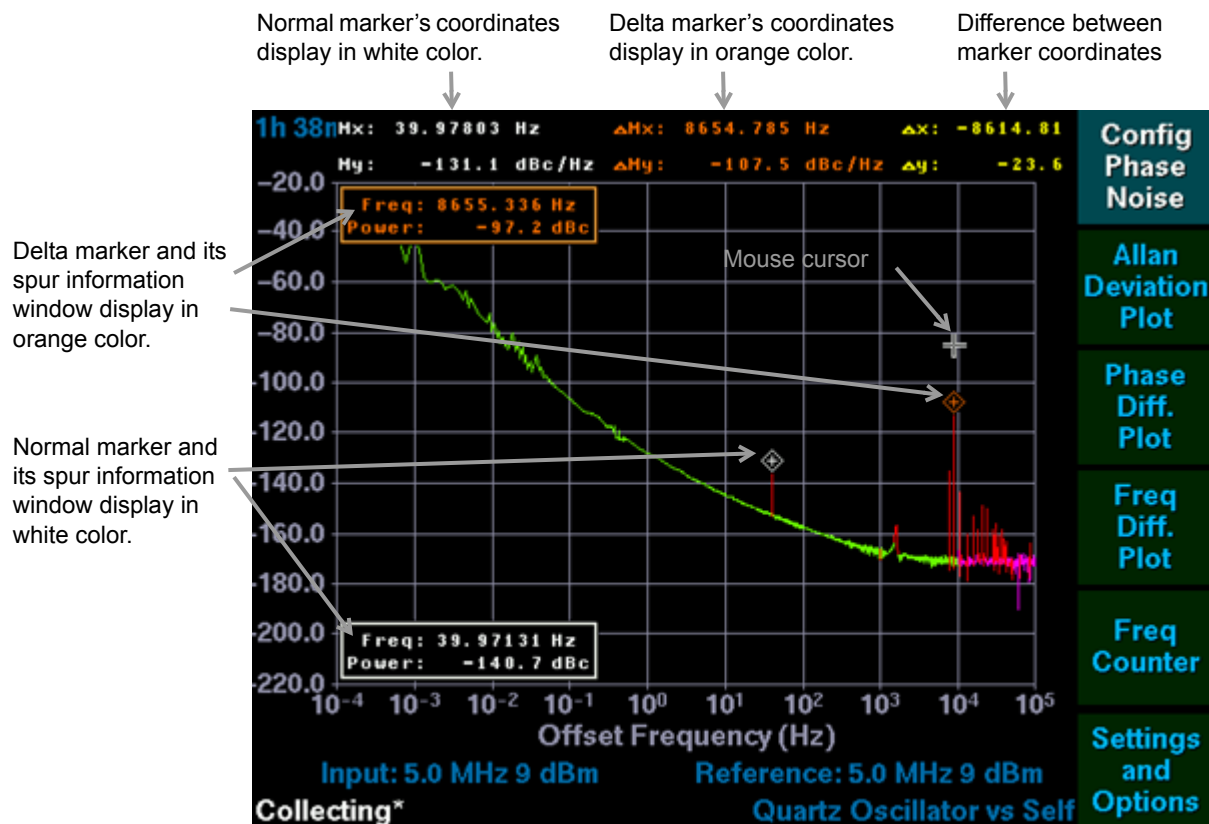

Figure 10: Example Phase Noise Data with Data Markers
- The mouse cursor changes to a cross hair as shown above the delta marker in Figure 10 Example Phase Noise Data with Data Markers.
- Tip: Due to limitations imposed by screen resolution, multiple data points are plotted at the same x-coordinate. Mouse-based marker placement also considers the y-coordinate when selecting the best matched measurement. The mouse was used to place the delta marker in Figure 10 Example Phase Noise Data with Data Markers. Note that the cross hair mouse cursor is above the actual measurement traced by the marker. This ensures that the marker is placed on the highest data point at that offset frequency. If the mouse cursor was at the same x coordinate but below the data set, the lowest point at that x coordinate would have been selected.